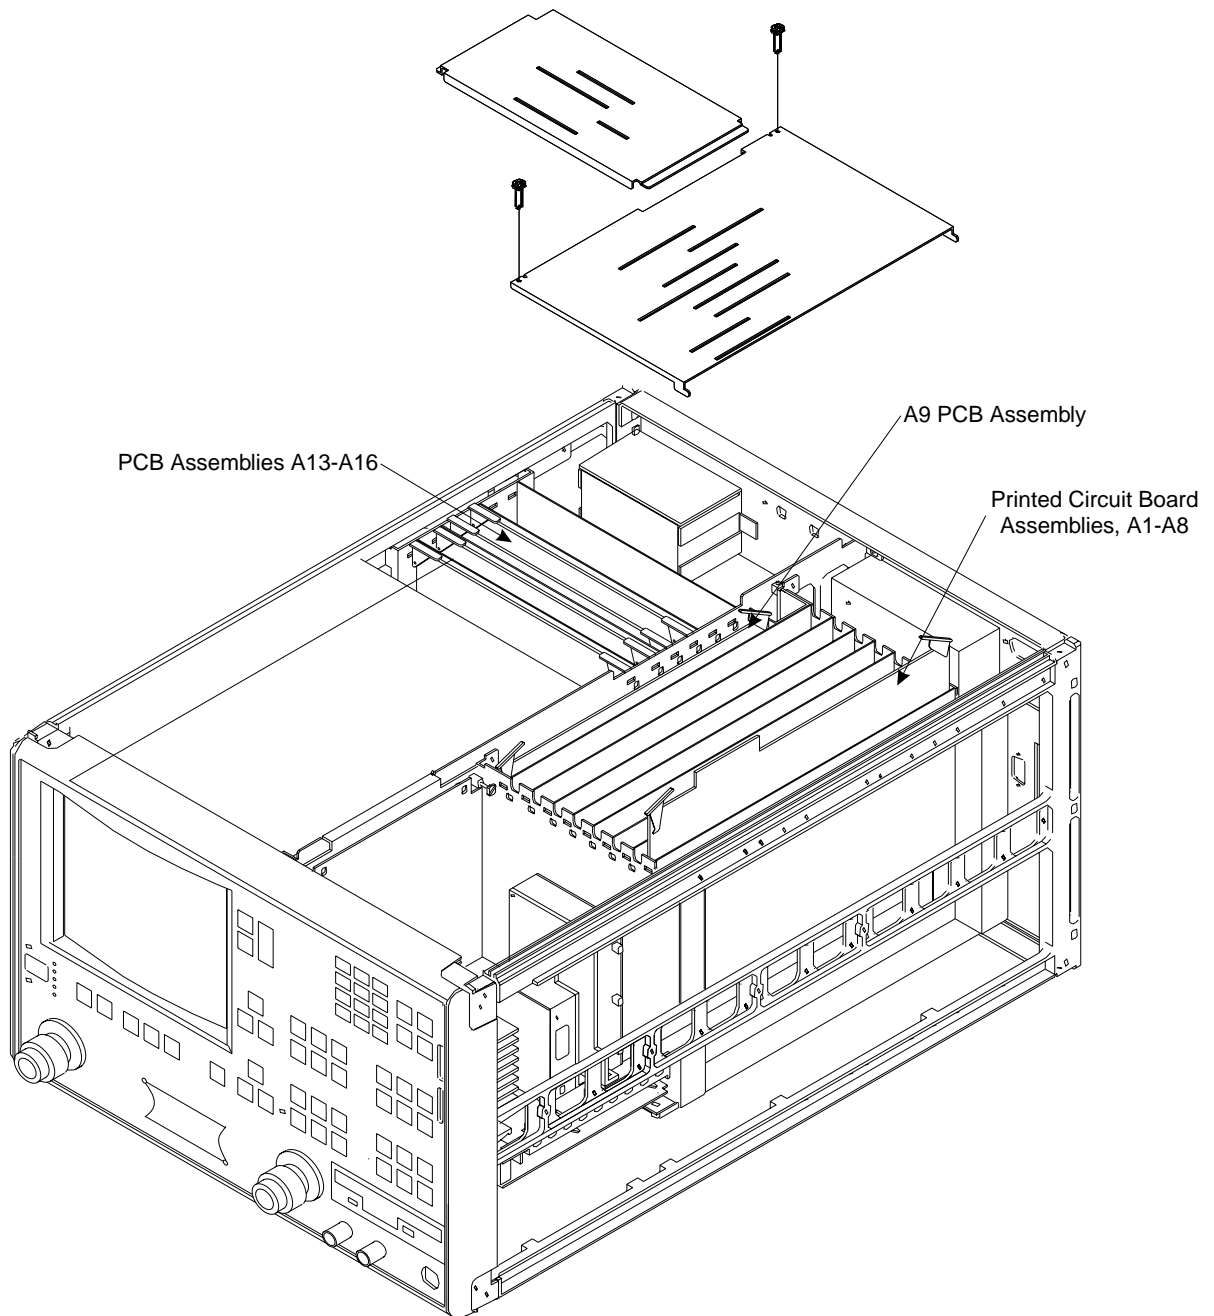

Figure 8-2. *A1-A9 and A13-A16 PCB Assemblies Removal Diagram*
- Step 2. Remove the two screws that secure the large card-cage cover (Figure 8-2).